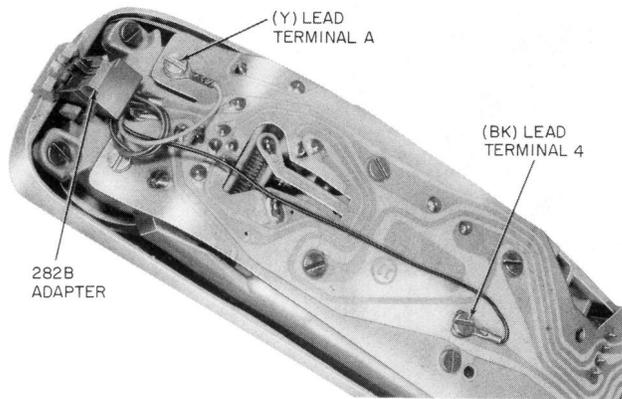

Fig. 6—282A (MD) or 282B Adapter (P/O D-180825 Kit of Parts) Installed in Hand Telephone Set
- (1) Open handset by removing the shell from the handset (paragraph 3.11).
- (2) Install the 282A (MD) or 282B adapter onto the existing handset cord jack (Fig. 6).
- (3) Connect the (Y) and (BK) spade-tipped leads of the adapter to terminals A and 4, respectively, of the network (Fig. 6).
- (4) Reassemble shell to hand telephone set.